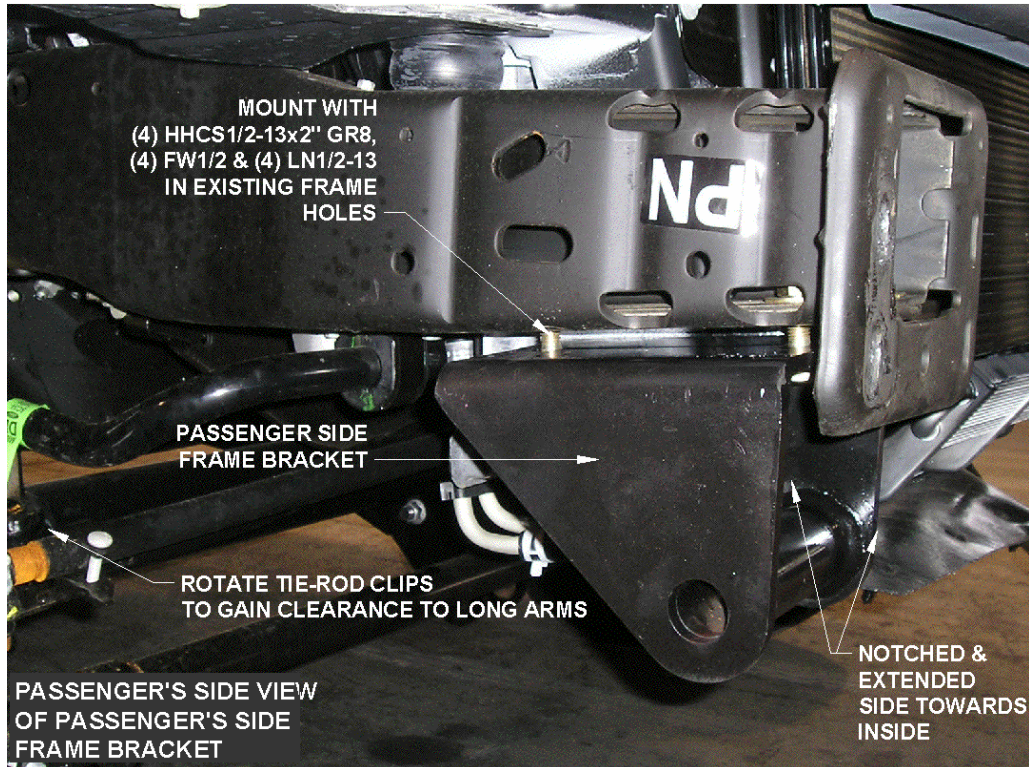

Figure 3: Front Frame Bracket Details
Install Frame Brackets with (8) ½"-13UNCx2 bolts, (16) ½" flat washers and (8) ½" hex nuts (see fig 3). Leave fasteners loose enough to allow alignment.